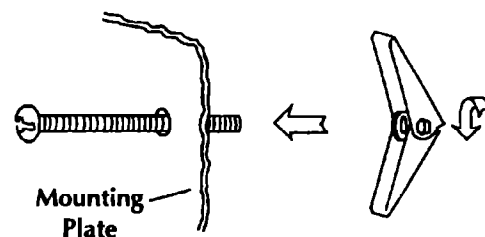

Figure 10
2. Insert one toggle bolt into each of the selected holes in the mounting plates (these holes correspond to holes in areas **A, B, C and D** of the **Wall Template**) and put the toggle nuts onto the toggle bolts (**Fig. 10**). If a hole is located in a stud, do not use a toggle bolt. Use a wood screw. If A, B, C, and D are not located in studs, follow template instructions for E and F.